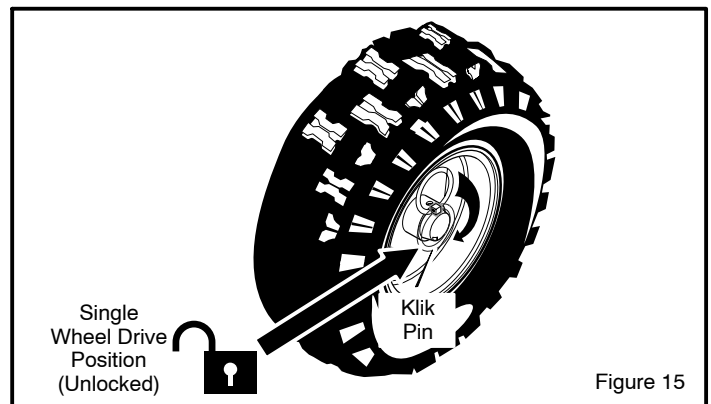

Figure 15
2. For ease of maneuverability when lighter conditions prevail, remove klik pin from wheel locked position and insert into single wheel drive (unlocked) position (Figure 15). Make sure that the klik pin is in the single wheel drive position of the axle only and not through the locked position.